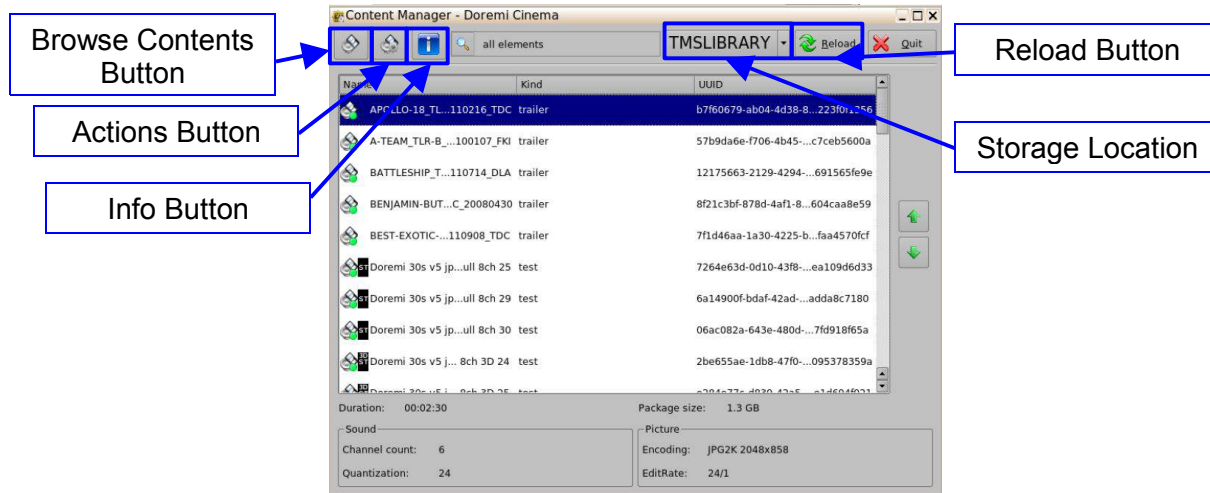

Figure 112: Content Manager – CPL Window
The user will be able to use the Browse Contents feature to retrieve more information concerning the CPL's, KDM's, SPL's, and Licenses (Figure 112).
- **Browse Contents Button:** Allows the user to go back to the home page or switch through CPL's, KDMS's, SPL's, and License windows (Figure 112).
- **Actions Button:** Provides the user with the option of performing an Integrity and Sanity Check. The user will also be able to export and delete a selected item (Figure 112).
- **Information Button:** Provides the user with the ability to obtain more information concerning the selected item including the properties, assets, and the SPL the CPL is associated with (Figure 112).